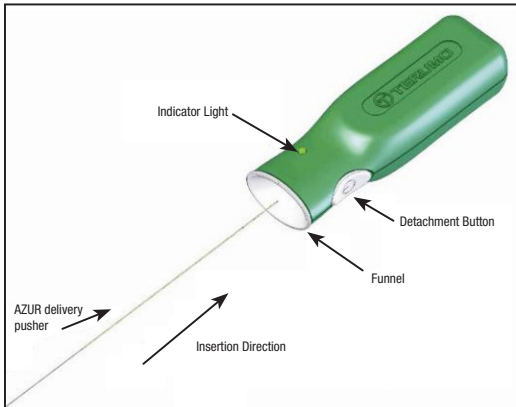

Figure 4 – Testing the AZUR Detachment Controller
12. Peel open the AZUR Vascular Plug pouch and remove the dispenser hoop from the pouch. Prior to using the device, remove the wedge from the dispenser hoop. While keeping the AZUR Vascular Plug implant and introducer in place, pull the pusher out of the dispenser hoop such that the proximal end of the delivery pusher is exposed. Use care to avoid contaminating this end of the delivery pusher with foreign substances such as blood or contrast. Firmly insert the proximal end of the delivery pusher into the funnel section of the AZUR Detachment Controller. See Figure 4. **Do not push the detachment button at this time.**
31. Connect the proximal end of the delivery pusher to the AZUR Detachment Controller by firmly inserting the proximal end of the delivery pusher into the funnel section of the AZUR Detachment Controller. See Figure 4.